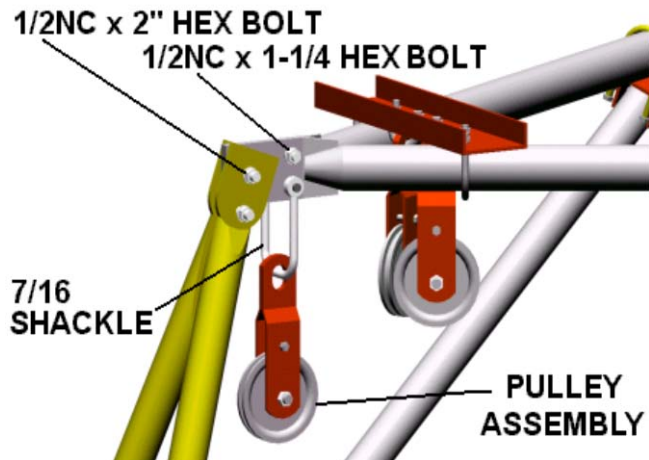
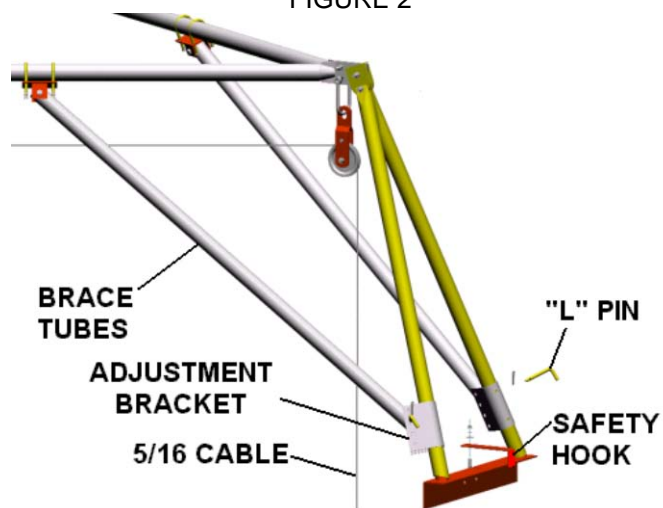

FIGURE 2
FIGURE 3
2. Locate this leg on the silo rim directly over the winch location. Insert a 1/2" x 2" hex bolt through the lower hole on the flattened (top) ends of the leg assembly and thread on a whiz nut but do not tighten. Allow space between the flattened ends to insert the ends of the tie tubes. Assemble this bolt to the other (2) leg assemblies also. See figure 2.
4. Locate the other (2) hexapod legs at 1/3 points from the first leg. Check these locations by measuring between the centers of the leg base plates and adjust as necessary so all (3) measurements are equal. Secure these legs to the wall using a safety hook driven behind the silo hoop and bolted to the leg bases with a 3/8 x 1" Carriage bolt, flat washer and whiz nut. See figure 3. Note: head of carriage bolt slides into "keyhole" in leg base plate.
5. Assemble the (3) tie tubes into a triangle with the flattened ends fitting together and with the brace tubes on the bottom side. Bolt the tubes together with a 1/2" x 1-1/4" hex bolt and whiz nut at the top hole location at each corner of the triangle.
6. Assemble each corner of this triangle between the flattened legs of each hexapod leg assembly using a 1/2" x 2" hex bolt with whiz nut. DO NOT TIGHTEN. See Figure 2.
7. Cut the brace tubes free from the tie tubes and allow them to swing down to the adjustment bracket (has 4 holes in it) welded to each leg of the leg assemblies. Connect the brace tube to these brackets using "L" pin and cotter. See Figure 3. All brace tubes should connect at the same set of holes in the adjustment brackets if the hexapod assembly is centered. They must be in the same holes on the same leg assembly. Having someone push upward at the midspan on the tie tubes will aid getting the "L" pins inserted. Do not move the attachment of the brace tubes along the tie tubes. This is factory assembled at the correct location.
9. Tighten the (2) 1/2" x 2" bolts at the top of each leg assembly. Attach a pulley assembly to the lower hole in the flattened ends of the tie tubes at each corner of the triangle using a clevis. See Figure 2.
10. Assemble (2) Pulley assemblies to the channel. Insert a 1/2" U-bolt through the slot of the pulley hanger and thread 1/2" hex nuts onto the U-bolts as far as they will go.
11. Assemble the channel with the (2) pulley assemblies to the top side of the tie tubes at the corner of the triangle adjacent to the leg with the wall cable roller assembled to it. Secure the channel to the tie tubes with (2) 3/8" U-bolts and (4) whiz nuts. Before tightening adjust the channel so it is about parallel with the base on the leg assembly.